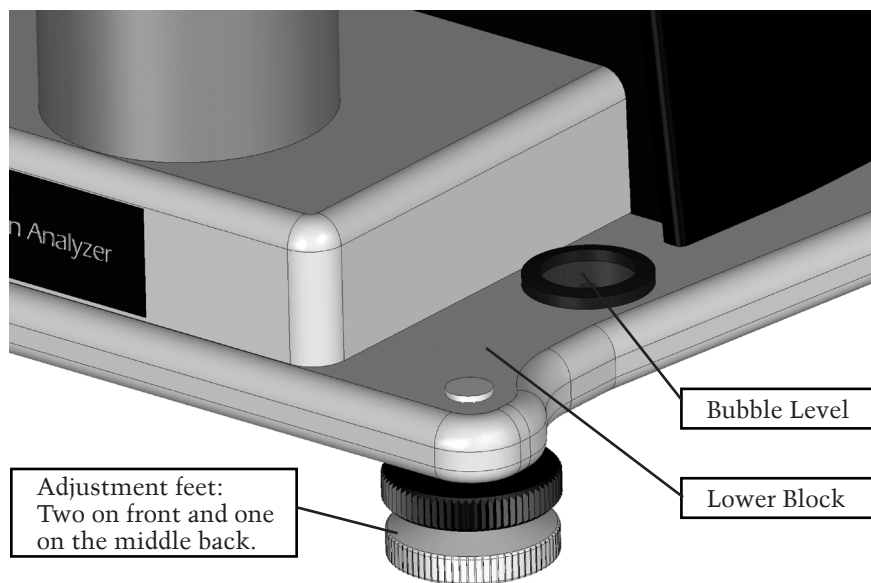

Figure 1: Adjustment and bubble level.
- Place AquaLab VSA on a flat surface. Use the bubble level (Figure 1: Adjustment and bubble level) and use the adjustable feet to level the instrument. The small rubber feet on the back of the lower plate are to prevent tip-over and do not need to be touching the table.